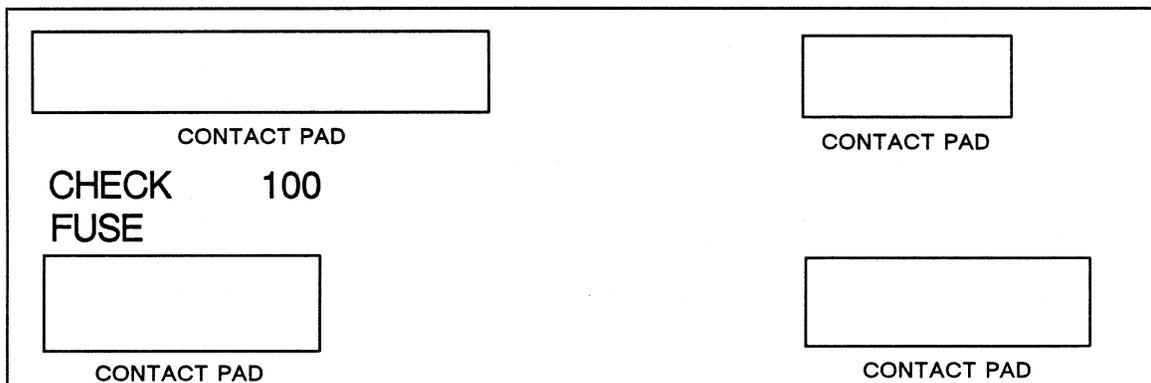

Figure 2-6. Model 30M 100 VAC Voltage Selection through PCB
- For 100 VAC operation, flip the PCB over. Slide the PCB into the fuse case so that the legend CHECK FUSE 100 is on the left side and right-side up. See Figure 2-6.